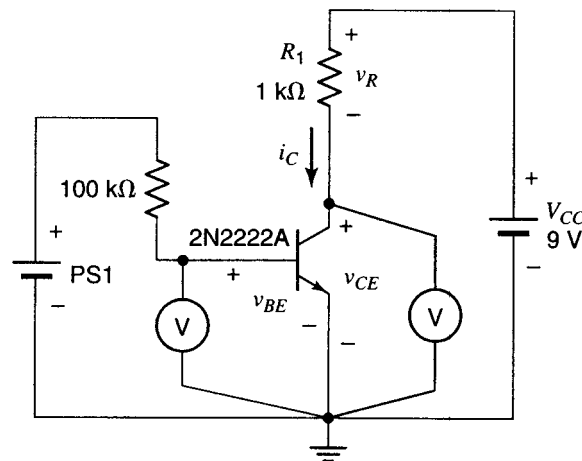

Figure 4. Transistor amplifier
5. You will next use the circuit of Fig. 4, but do not hook it up yet. This circuit is an example of a setup that is very sensitive because, as you will see, the transistor can amplify the effect of voltage variations present between its base and emitter. Thus, if interference finds its way to the base or emitter, it will be amplified and can produce a large error, or
Following these guidelines, set up the circuit of Fig. 4, but do not turn on the power supplies yet.